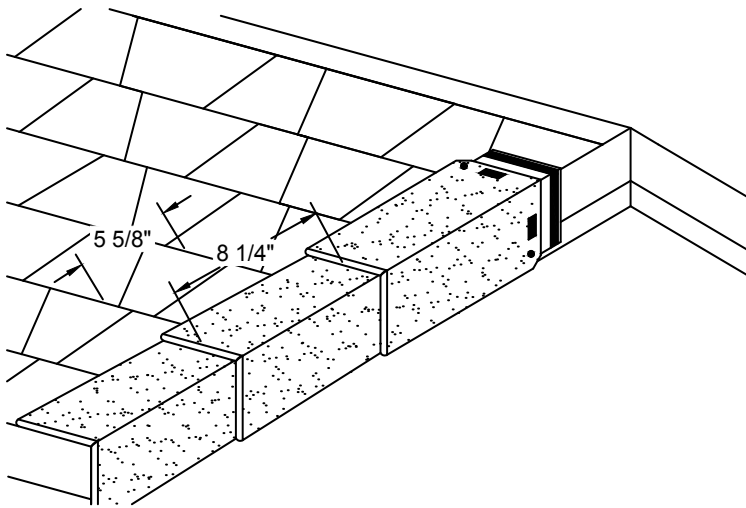

Figure 28 - Installation of EZ-Ridge® Shingles on Rake Edges of the Roof
3. Note: Installation with exposed nails may affect the aesthetic appeal of EZ-Ridge® shingles. (See Figure 28)